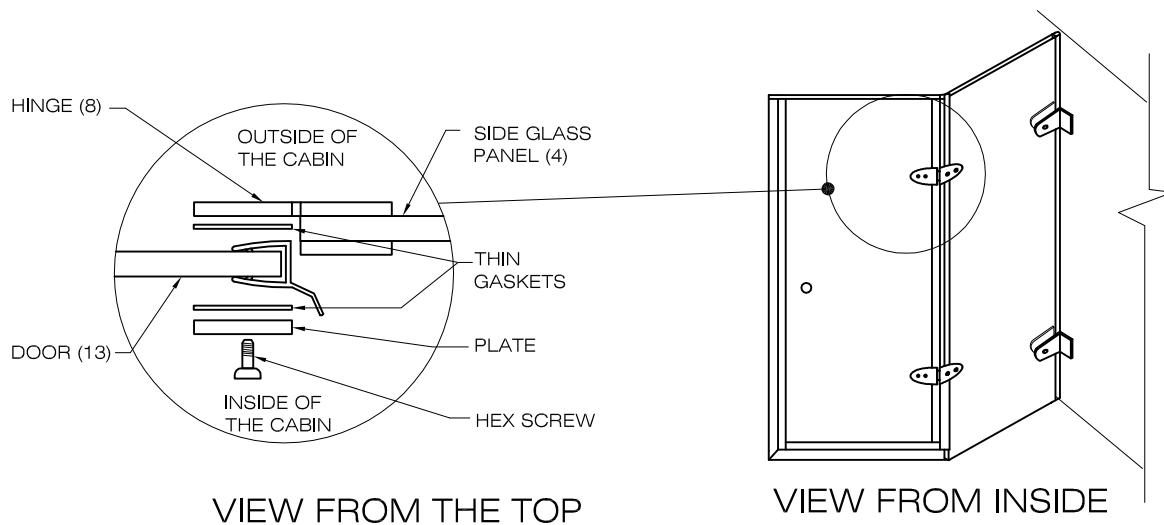

FIG.8
4. Install the hinges as illustrated [SEE FIG.8]. Use the hex key supplied.